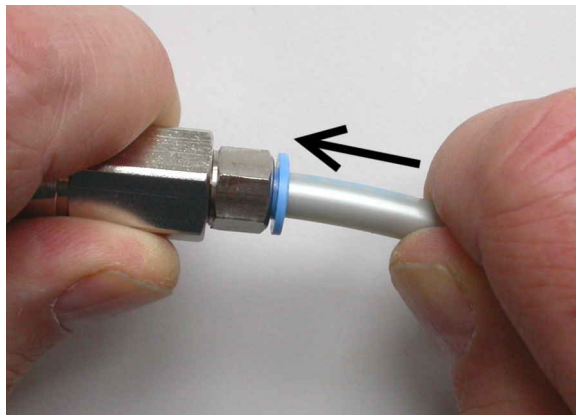

Figure 6-4: Assembly of push-pull adapter (left) and 6 mm tube (right)
5. Push the tube all the way into the adapter, as shown in Figure 6-4.